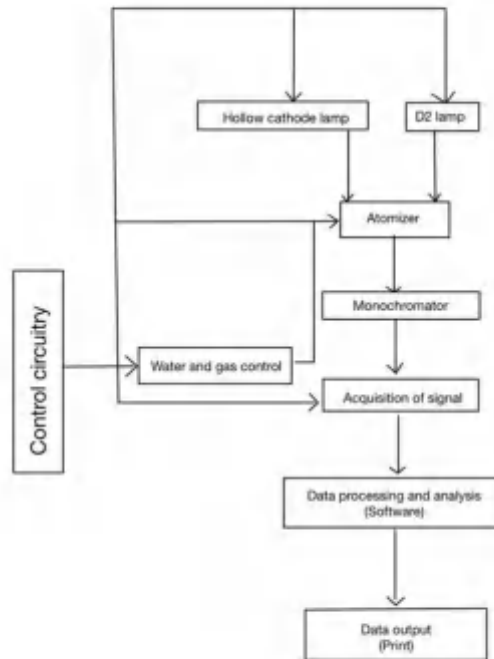

Fig. 1-1 System function association block diagram
4. The functional association between each system unit is shown in Fig. 1-1.